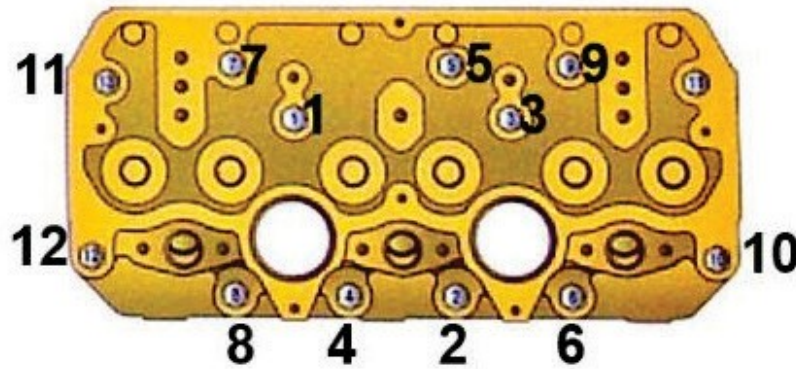

Figure 8.48
**Procedure 42. Checking the Bolts Fastening Two Engine Cylinder Head for Proper Tightening (fig.8.48)**